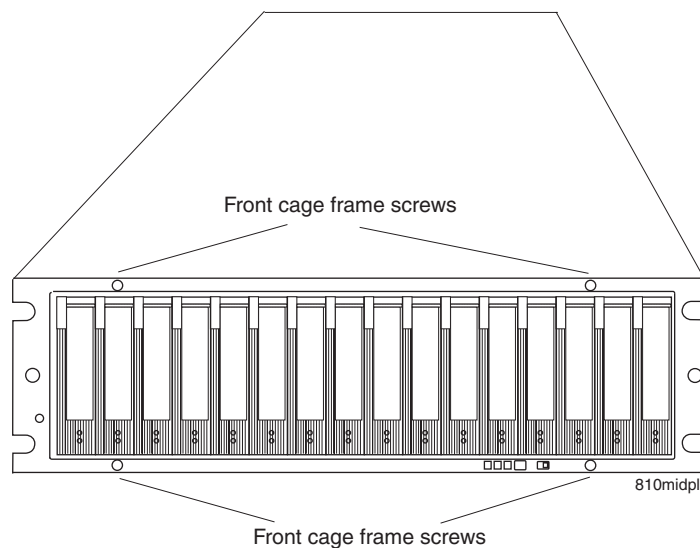

Figure 84. Front cage frame screw locations
9. Use a #1 Phillips screwdriver to loosen the four front cage frame screws on the midplane, as shown in Figure 84.
16. Tighten the four front cage frame screws. See Figure 84 on page 146.